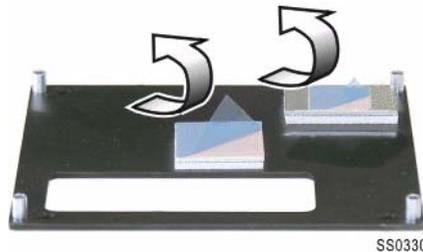

Figure 15: Remove protective strips from APC heat pads
6. Prepare the heat spreader for installation by removing the protective strips from the adhesive heat pads (see Figure 15).